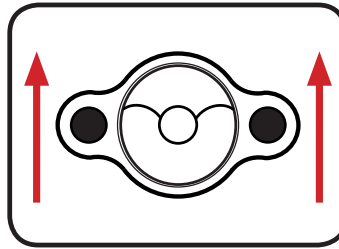

Fig.4
4. Place the handing pin in the 'L' hole and refit the cover plate with the 2 screws. When refitting the cover plate, ensure that it is facing as per **Fig.4** and screws down flush.